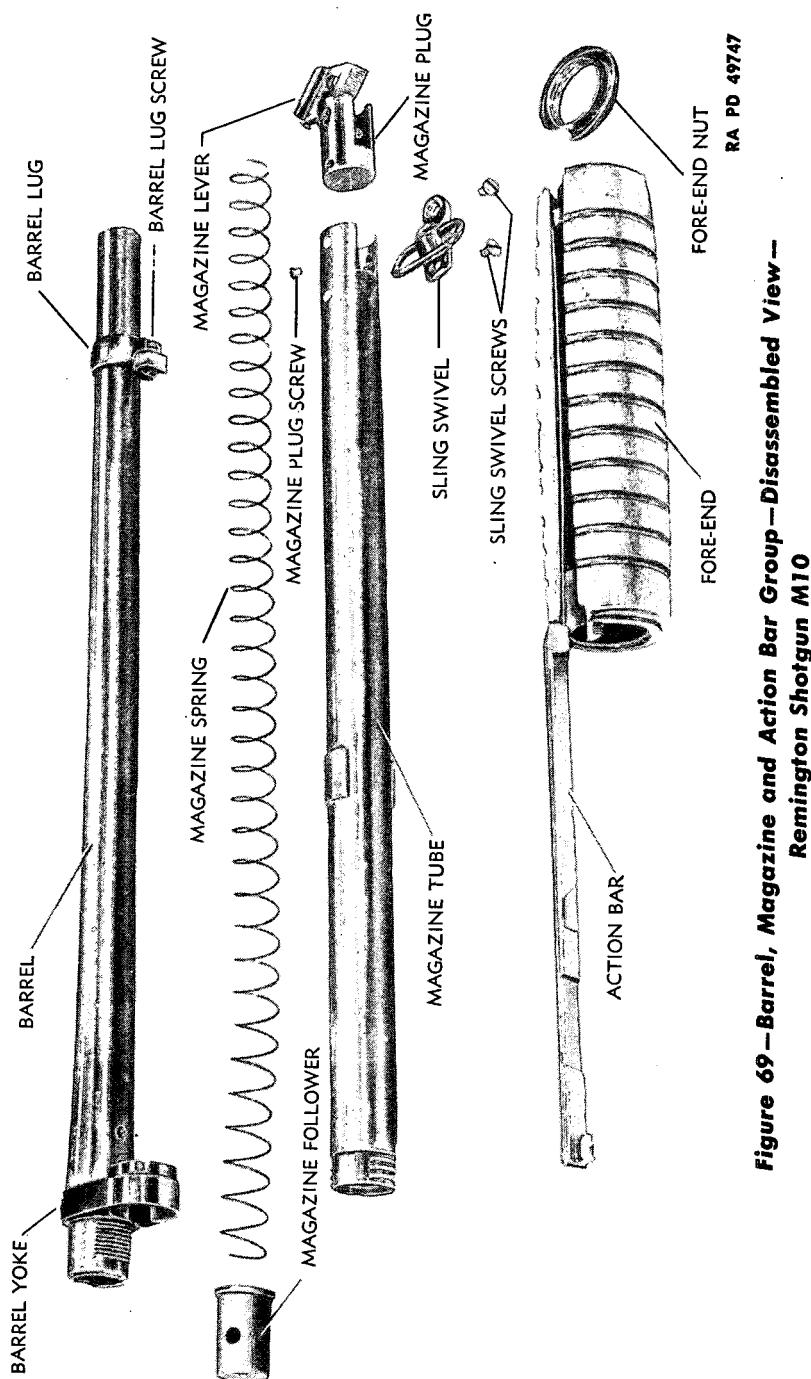

Figure 69—Barrel, Magazine and Action Bar Group—Disassembled View—
(2) The sporting-type gun is furnished with a 30-inch barrel, bored full choke, and is without bayonet attachment or sling.
(3) The M10 is no longer made by Remington, but a number are still in use in the field.
d. General Description (figs. 69, 70, 77, and 78).
(1) The stock of the gun is fitted to the rear end of the receiver and bolted to the trigger guard tang, and the barrel and magazine locked to the forward end of the receiver as already explained in paragraph b above. The fore end and action bar group is mounted and operates on the magazine tube. The rear end of the action bar passes through the forward end of the receiver and engages with, reciprocates, and cam-operates the breechblock, which in turn engages with and cam-operates the carrier.
(2) The magazine which is of the tubular type is positioned beneath the barrel and has a capacity of five shells loaded end to end. The shells are pressed together and fed into the receiver by the force of the magazine spring acting upon the follower. The magazine is locked to the barrel lug by a lever pivoted in a slot in the magazine plug and held in position when locked by a spring-loaded detent. The magazine spring is held in the tube by the magazine plug and follower.
(3) The receiver contains the operating and firing mechanism with the exception of the trigger, and to its rear end is attached the trigger guard in which is mounted the trigger, trigger spring, and safety slide. The receiver is open at the bottom for loading and ejection of shells and at the rear for passage of the breechblock on its rearward movement. The action bar lock button, which is operated to disengage the action bar lock and allow the action bar to be retracted, is positioned in the right wall of the receiver. The carrier stop which supports the rear end of the carrier is seated in a vertical undercut groove in the rear inner right wall of the receiver. The ejector spring is seated in an undercut groove in the top of the receiver and acts to spring the fired shell down out of the receiver when extracted from the chamber by the extractor on the breechblock. The flap of the carrier assists this function as it is cam-rotated down behind the ejected shell.
40. REMOVAL OF GROUPS (figs. 69, 70, 77, and 78).